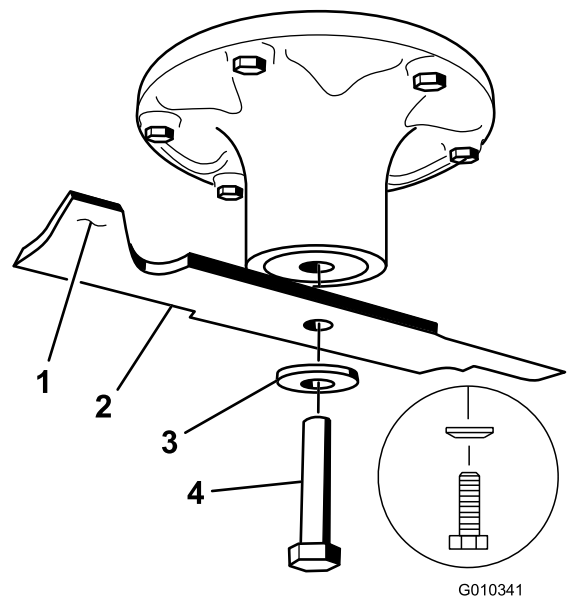

Figure 59
Hold the blade end using a rag or thickly-padded glove. Remove the blade bolt (rotating it counter-clockwise), curved washer, and blade from the spindle shaft (Figure 59).
Note: If the blade stays in a horizontal position, the blade is balanced and can be used. If the blade is not balanced, file some metal off the end of the sail area only (Figure 59). Repeat this procedure until the blade is balanced.
1. Install the blade onto the spindle shaft (Figure 59).
Note: The spring disk cone must be installed toward the bolt head (Figure 59).